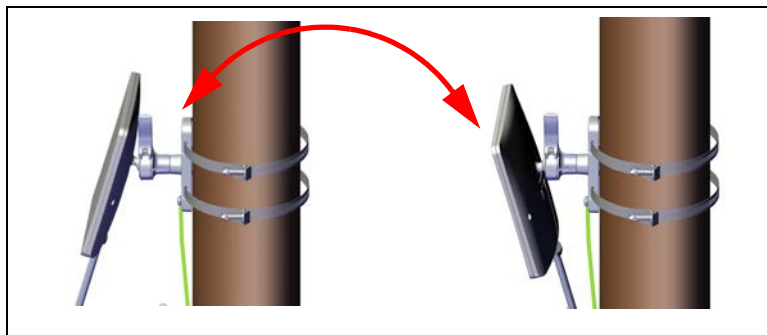

Figure 2-57: Swivel vertically
- Once alignment is complete, tighten the arm on the SU **PRO/AIR** EMB mounting kit (see Figure 2-57 for the SU **PRO/AIR** EMB) or tighten the bolt on the standard mounting kit (see Figure 2-33 for an external antenna, and Figure 2-59 for the SU **PRO/AIR** INT).